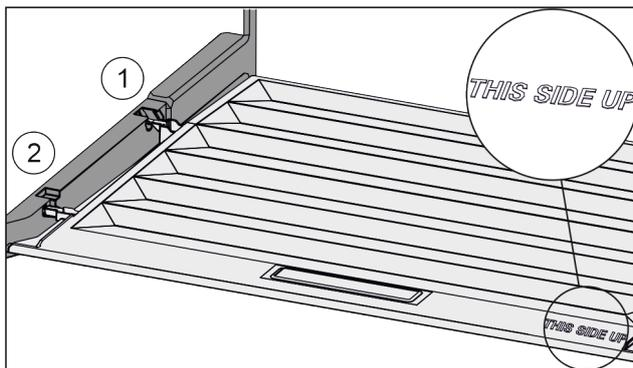

Fig. 98
- ▶ Insert the lip of the cover over the opening of the rear bracket Fig. 98 (1) and click into place Fig. 98 (2).